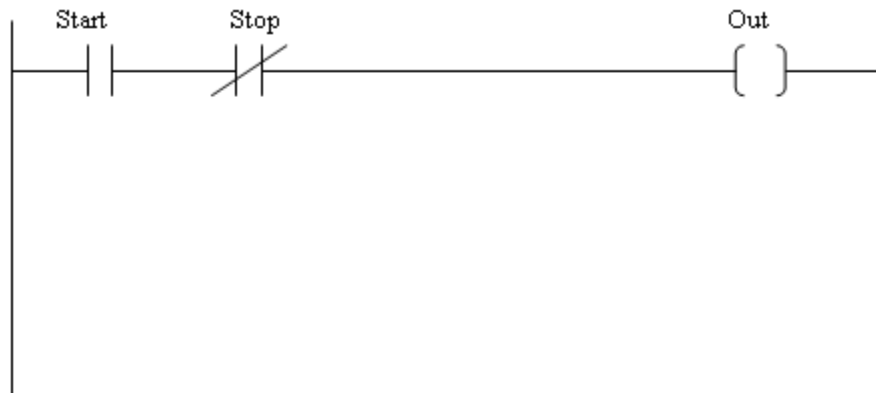
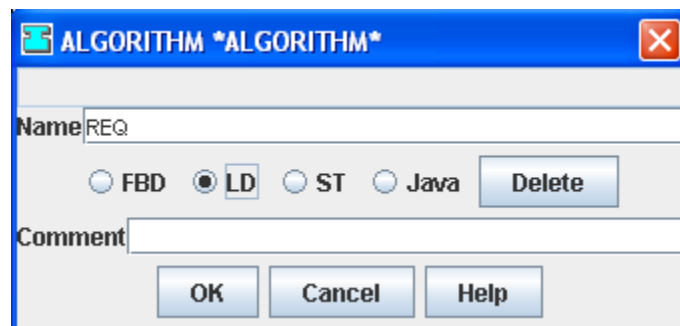
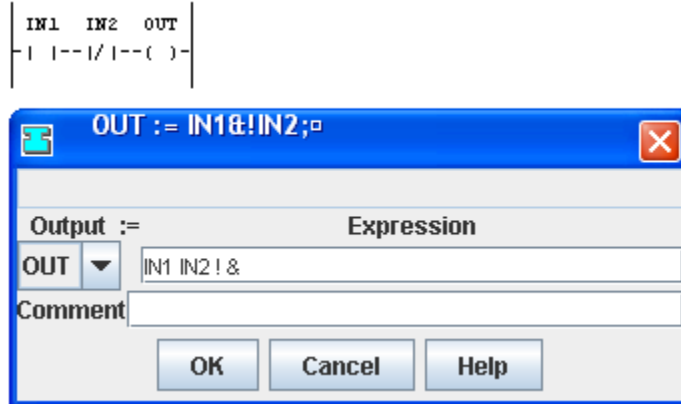

Figure 3.1 Ladder Logic for Basic Function Block
Figure 3.8 New Algorithm Definition Window
Figure 3.10 Ladder Logic Expression, Output, and Rung for Basic Function Block
SITUATION: Create a basic function block called ON_OFF_OC_B that implements the following ladder logic shown in Figure 3.1.
block, clicking on New, and clicking on Variable. Select input to create a new data input. A window will pop up to name and define the data type for the new data input. For this tutorial, name it IN1; which will represent the open contact shown in Figure 3.1. Click on drop down menu next to the Name text field to select a data type for the data input. In this tutorial, both data inputs should be Boolean, so select BOOL to make IN1 a Boolean data input. Click on OK and the new data input IN1 will appear on the function block. Repeat this process for IN2, which will represent the closed contact shown in Figure 3.1. Now, the necessary data inputs for the basic function block are completed.
Now an algorithm must be defined before assigning algorithms to event. There are already two algorithms pre-defined for the default basic function block, INIT and REQ. Double click on each and select Delete to remove these algorithms. Click OK on the Algorithm window and then click on the circle of arrows below the list on the left side of the main screen to update the basic function block; the two algorithms in the list will then be deleted. Now, to create a new algorithm named REQ, which will be used for the REQ state. Right click on the empty workspace, click on New, and select Algorithm. A window will pop up to define a new algorithm. Name it REQ in the text field named Name. Underneath Name, there is a list of four languages for this algorithm. The four languages that can be used for algorithms in basic function blocks are structure text (ST), function block diagrams (FBD), ladder logic (LD), and Java. Since Figure 3.1 has is a ladder logic diagram, we will use ladder logic (LD) to define the REQ algorithm. When finished, the screen should look like Figure 3.8.
For this tutorial, the ladder logic shown in Figure 3.1 will be implemented in this algorithm. Right click on the empty workspace, click on New, and select Rung. A window will pop up to define the output of the rung and the expression of the rung. The output of the function block is OUT, so the output of this algorithm should also be OUT. For the expression, the ladder logic has an open switch called Start and a closed switch called Stop. The two switches are in succession, so both must be true in order to yield an output. This function block has two Boolean inputs, IN1 and IN2. IN1 should represent the open switch called Start and IN2 should represent the closed switch called Stop. Closed switches (and other NOT functions) can be coded by putting an exclamation mark (!) after the variable. In this case, the ! is needed for IN2 since it is a closed contact. To include successive switches in ladder logic, an ampersand (&) is used after IN2. A space must be between any characters and the variable, otherwise the algorithm will not work properly. The expression, with the output, is shown in Figure 3.10 below.